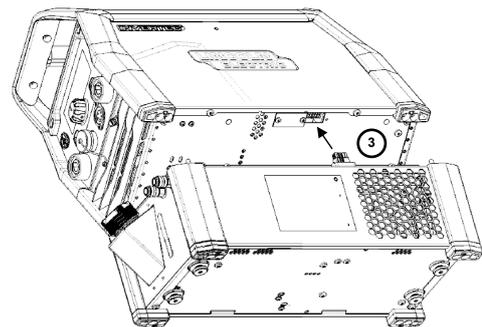

Figure 2
3. Place the power source on the cooler and slightly tilt it to connect the cooler plug to the power source (Figure 2).